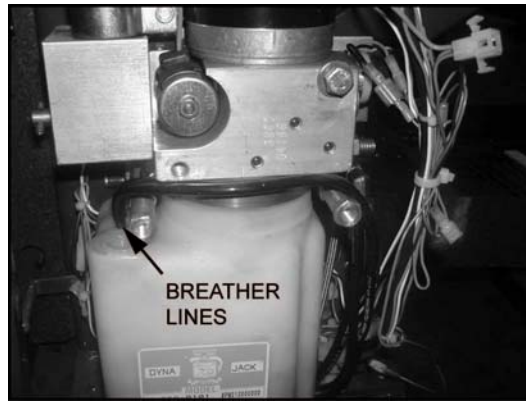

FIGURE 3-43
4. Refer to **Figure 3-43**. Disconnect two breather lines from pump only.